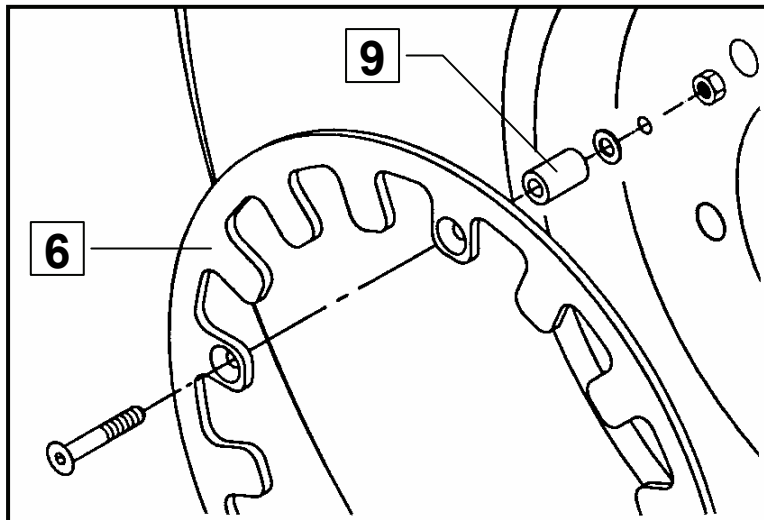

Fig. 5
- Screw the ring on the inside of the wheel and attach the spacers (9) between the ring and the rim. Check whether the ring has been aligned precisely parallel to the rim (fig. 5).